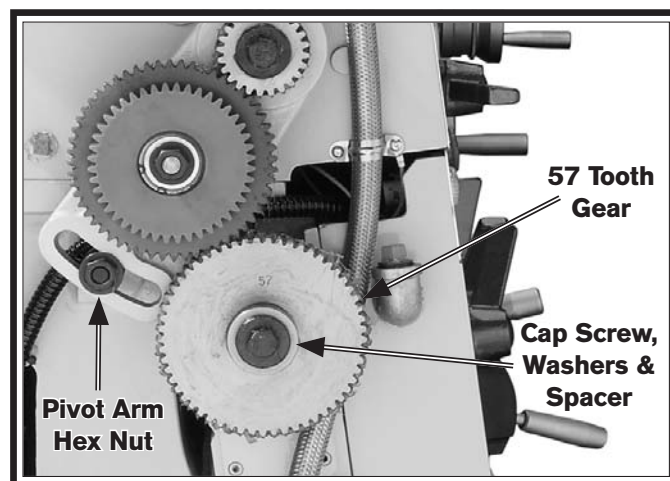

Figure 76. End gear components.
3. Remove the cap screw, lock washer, and flat washer from the 57T end gear (see **Figure 76**).
4. Loosen the pivot arm hex nut shown in **Figure 76**, then swing the pivot arm to the left so that the 44T/56T gears are away from the 57T gear. Hand tighten the hex nut to keep the arm in place.